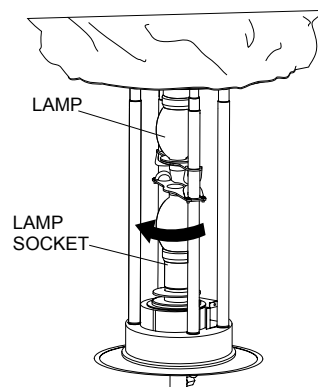

Figure 37. Installing New Lamp
5. Install new lamp into socket and turn lamp in a clockwise direction until tight. See Figure 37.